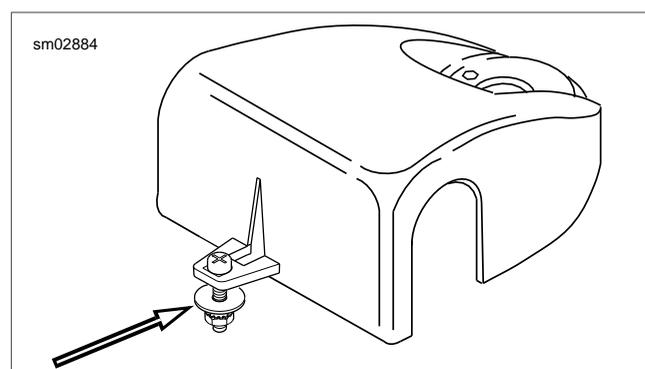

Figure 2-160. Handlebar Clamp Shroud and Screw Assembly
11. Raise the handlebar clamp shroud, and after separating the halves of the headlamp nacelle slightly, slide the shroud forward running the shaft of the Phillips screw down the gap. See Figure 2-160.
3. If disassembled, install Phillips screw, flat washer and Keps nut on the handlebar clamp shroud as shown in Figure 2-160.